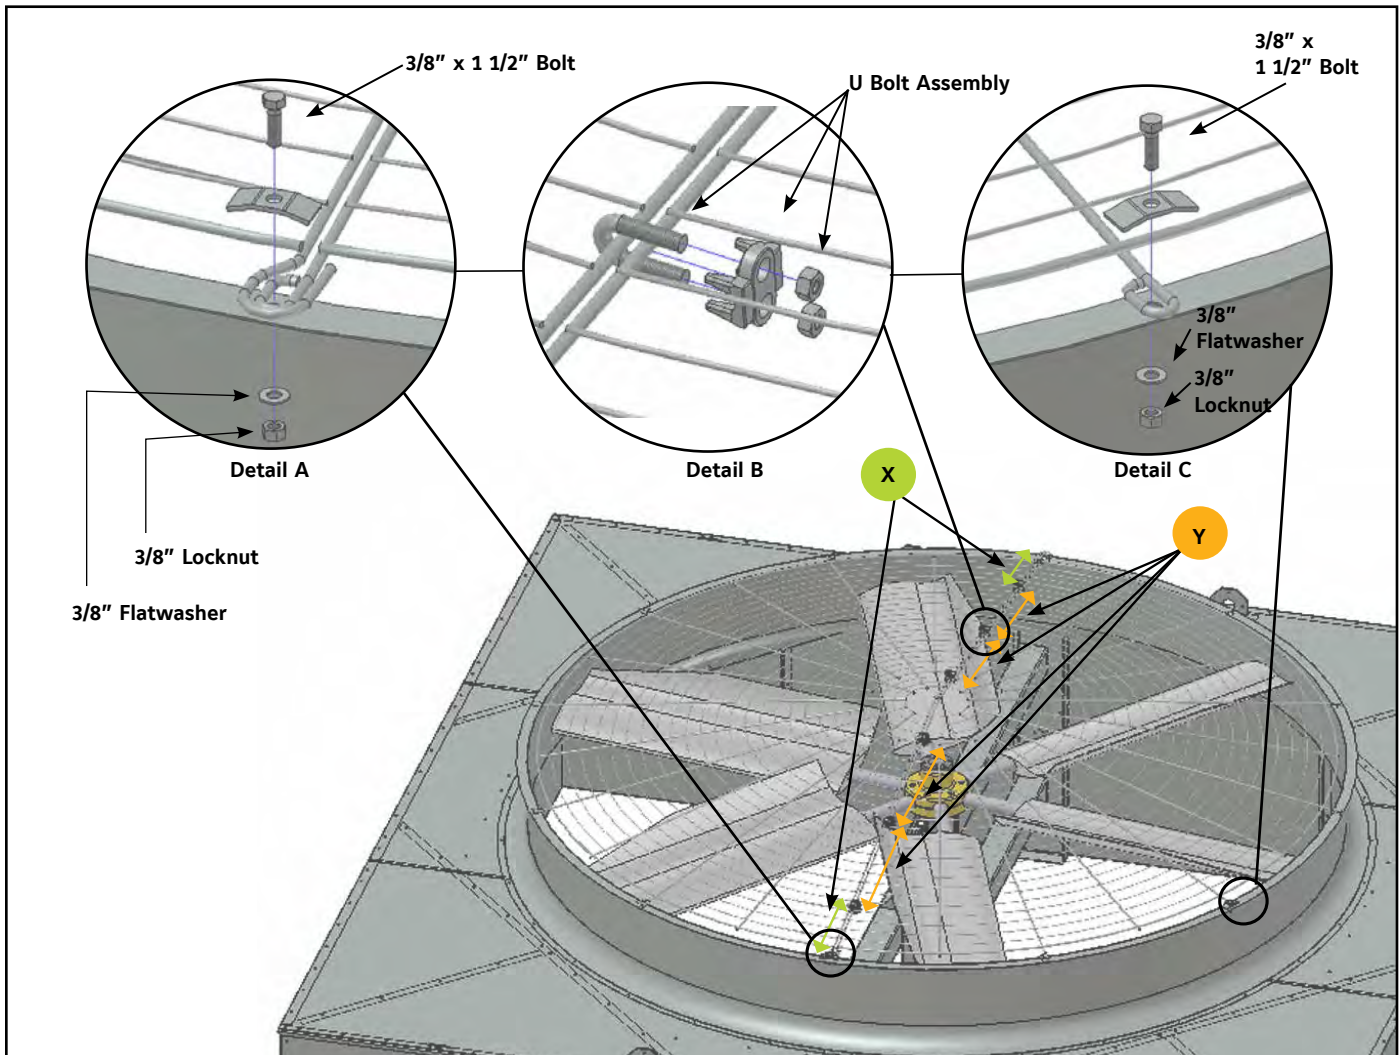

Figure 12 – Two-Piece Fan Guard Assembly
Mount the fan guard to the unit as illustrated in Figure 12, Detail C.
1. Bolt the two halves together as illustrated in Figure 12, Detail B at the X and Y dimensions shown in Table 2.
2. Mount the fan guard to unit as illustrated in Figure 12, Detail A for the seams where the two halves join together, and Detail C for all others.